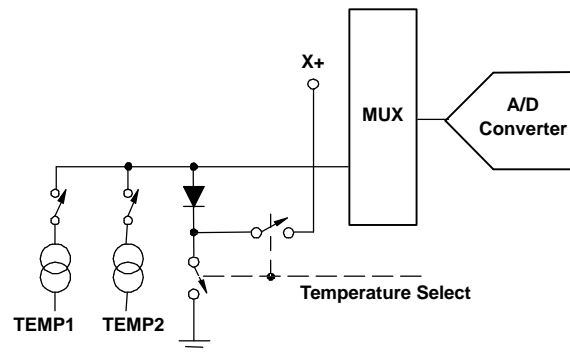
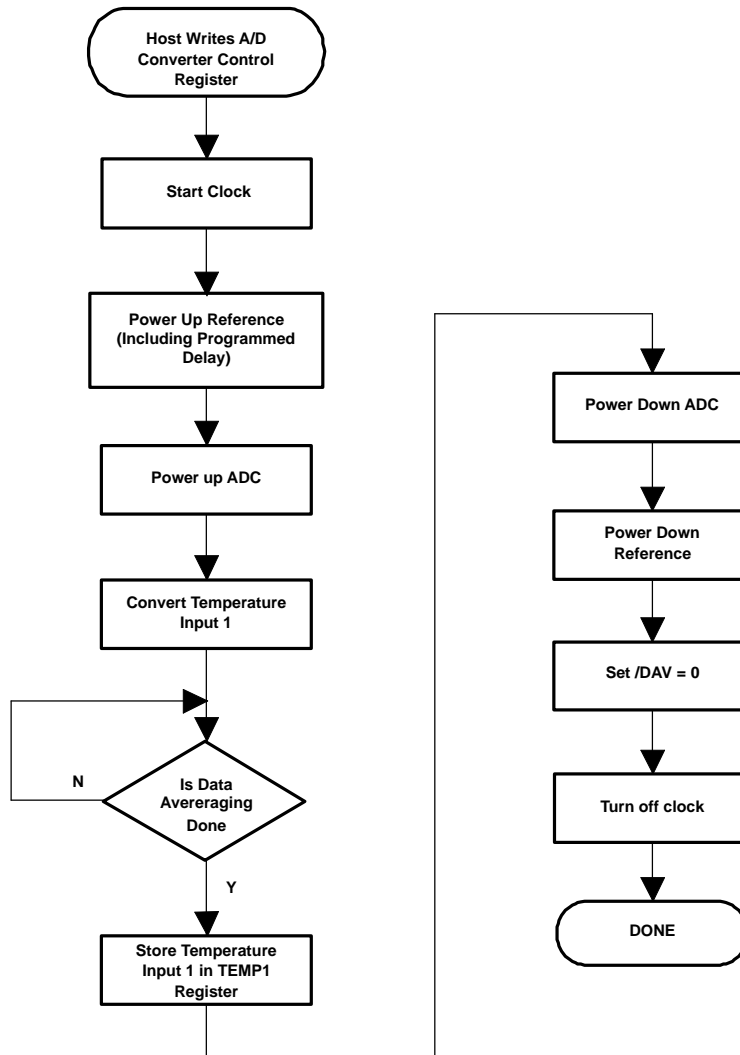

Figure 61. Functional Block Diagram of Temperature Measurement Mode.
Figure 62. Single Temperature Measurement Mode
The TSC2300 offers two modes of temperature measurement. The first mode requires calibration at a known temperature, but only requires a single reading to predict the ambient temperature. A diode, as shown in Figure 61, is used during this measurement cycle. The voltage across this diode is typically 600 mV at +25°C while conducting a 20- μ A current. The absolute value of this diode voltage can vary several millivolts, but the temperature coefficient (TC) of this voltage is very consistent at -2.1 mV/°C. During the final test of the end product, the diode voltage would be measured by the TSC2300's ADC at a known room temperature, and the corresponding digital code stored in system memory, for calibration purposes by the user. The result is an equivalent temperature measurement resolution of 0.3°C/LSB. This measurement of what is referred to as Temperature 1 is illustrated in Figure 62.